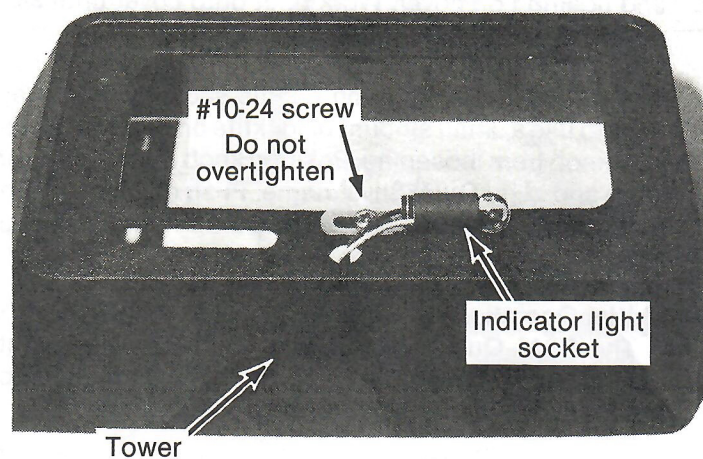

FIGURE 11
Step 26. Mount indicator light onto tower (See Fig. 11) Light socket can mount on top or bottom of tower depending on brightness desired. Mount socket so bulb is to rear of tower and secure using one 10-24 self-tapping screw. Do not overtighten as you may strip out hole in tower. Place tower in position on shifter. Connect one wire from the light socket to a good chassis ground. A shifter mounting bolt should be satisfactory. Run a length of wire from the vehicle's instrument light circuit to the other wire from the light socket. Secure and tape all wires. The indicator light will work with the instrument lights.